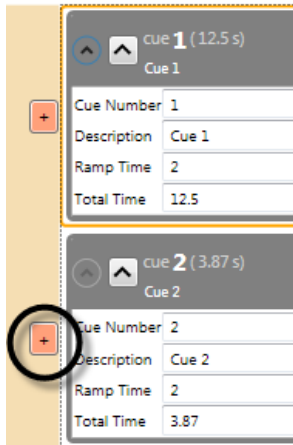

Figure 156
1. Click the **Add Link** button next to the **Child Cue** (Figure 156).